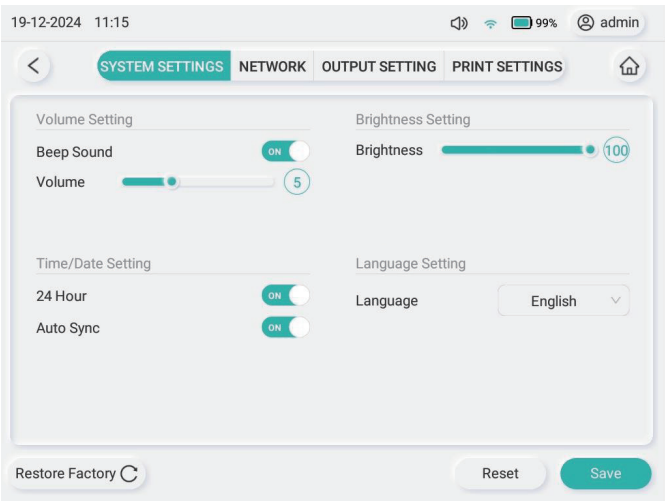

Figure 5-10 Volume setting
- 1) Click , as shown in Figure 5-10, the Brightness setting interface.
- 1) Click , to see the Time/Date setting interface. This is shown in Figure 5-10.
- 3) Click  to see the Language Setting interface. This is shown in Figure 5-10.